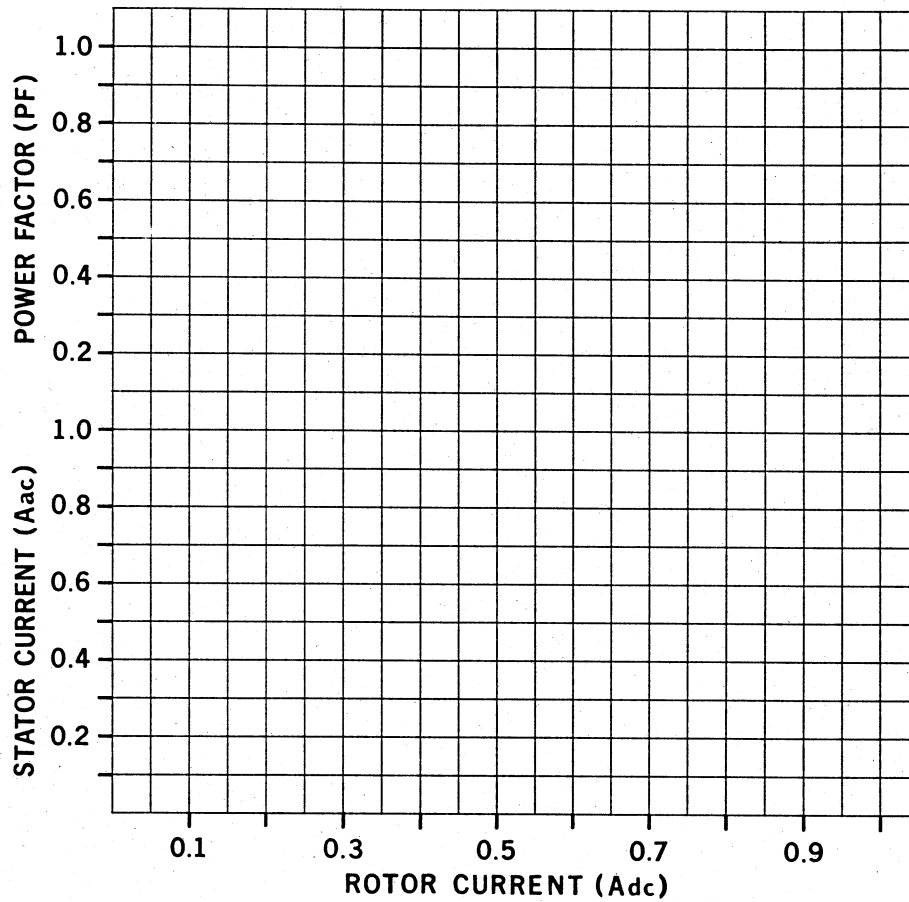

Figure 8-2.
1. a) Plot the recorded AC current values vs DC current values from Table 8-1 on the graph of Figure 8-2.
- c) Plot the recorded power factors vs DC current values from Table 8-1 on the graph of Figure 8-2.